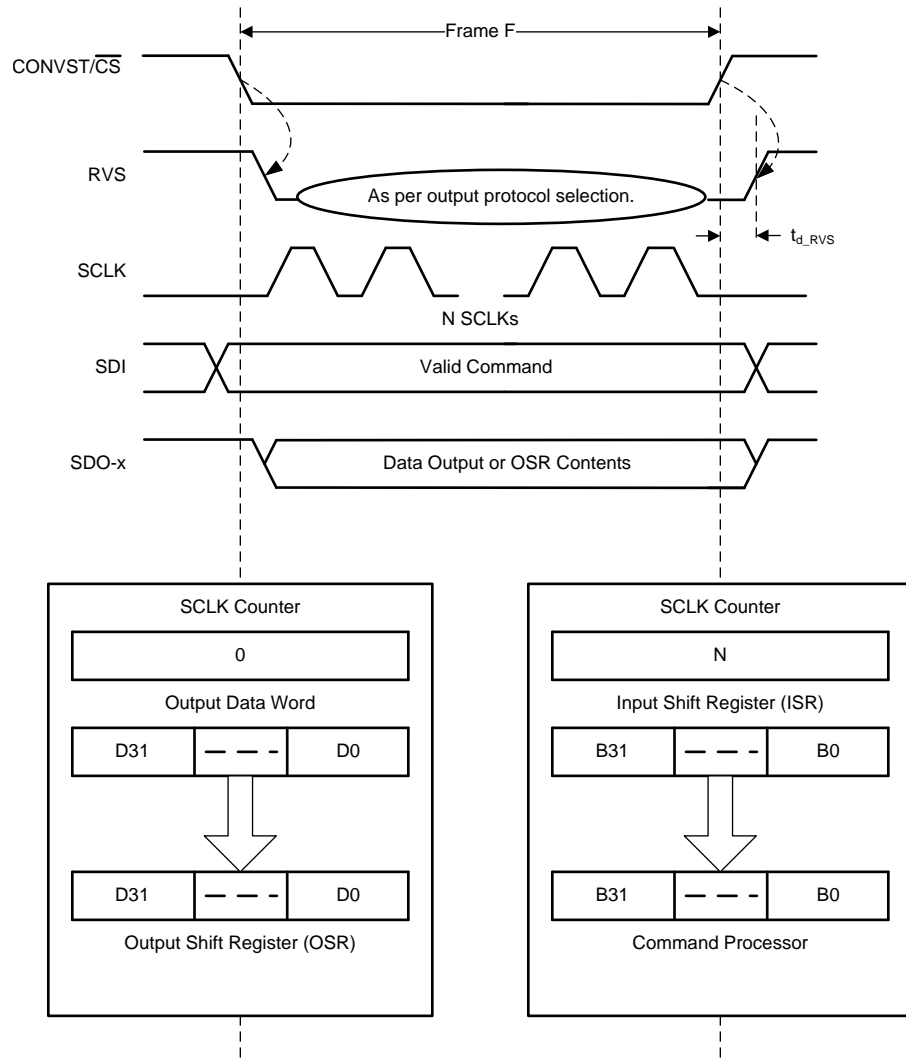

Figure 74. Data Transfer Frame
A data transfer frame between the device and the host controller begins at the falling edge of the CONVST/ $\overline{\text{CS}}$ pin and ends when the device starts conversion at the subsequent rising edge. The host controller can initiate a data transfer frame by bringing the CONVST/ $\overline{\text{CS}}$ signal low (as shown in Figure 74) after the end of the CONV phase, as described in the CONV State section.
- The device takes control of the data bus. As illustrated in Figure 74, the contents of the output data word are loaded into the 32-bit output shift register (OSR).
- As illustrated in Figure 74, the contents of the input shift register are transferred to the command processor for decoding and further action.